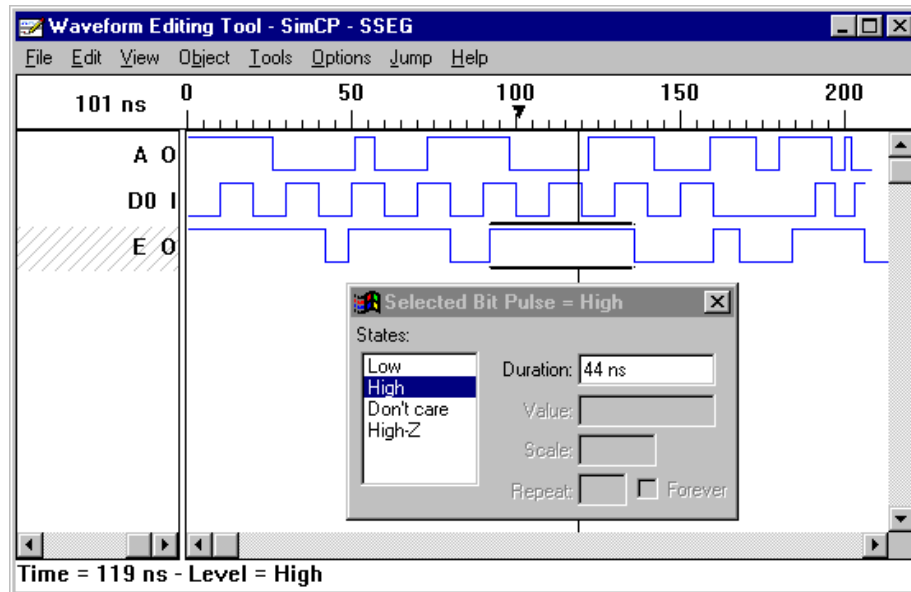

Figure 1-10. Selected Bit Pulse Dialog Box
10. The Selected Bit Pulse dialog box (Figure 1-10) gives you complete control over the state and duration of each Pulse. Select the state in the States list box for the signal, and specify the duration in the Duration text box.